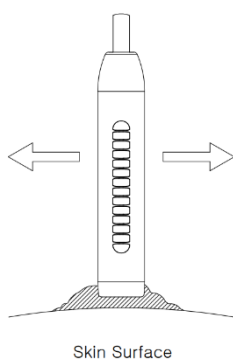

Figure 2. BT-200L, BT-200T Probe
- If use 2,3 MHz probe of BT-200L, BT-200T and BT-200V, place the probe on the measurement area at a 90-degree angle (see figure 2 and 2-1.) and move slowly to locate the point where fetal heart sounds are at the maximum. Or place the transducer directly against the abdomen, just above the point where the pelvic bones meet.